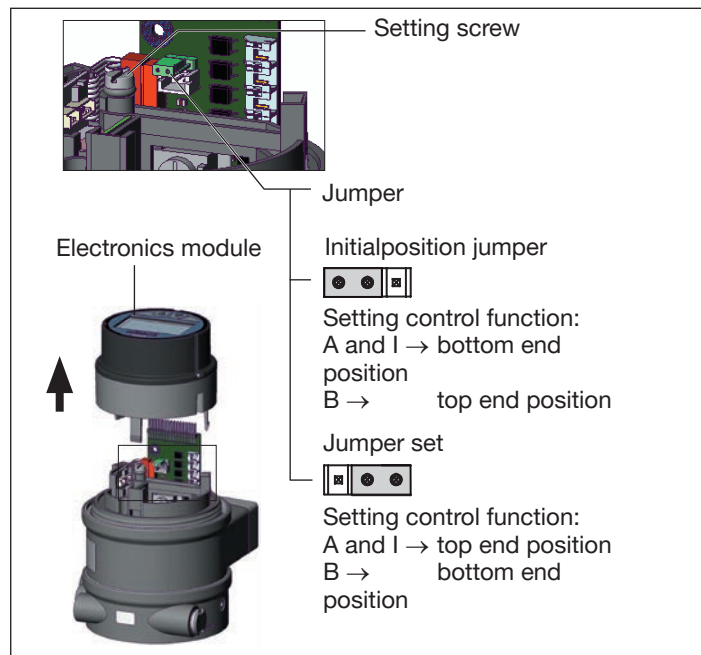

Fig. 15: Setting the proximity switch
- Set jumper (see "Fig. 15: Setting the proximity switch").
- Return jumper to home position ("Fig. 15").